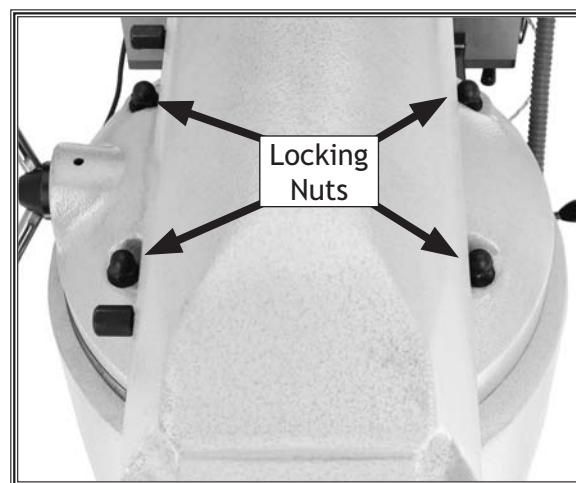

Figure 23: Column swivel locking nuts.
2. Use a 19mm wrench to loosen the locking nuts shown in **Figure 23**.